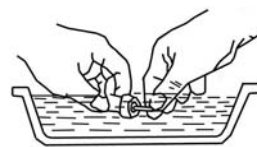

Fig.16 Cleaning needle valve and body
3.3 Put the nozzle couples into cleaning diesel oil with rotating and drawing backward and forward in needle valve body (See Fig. 16) .